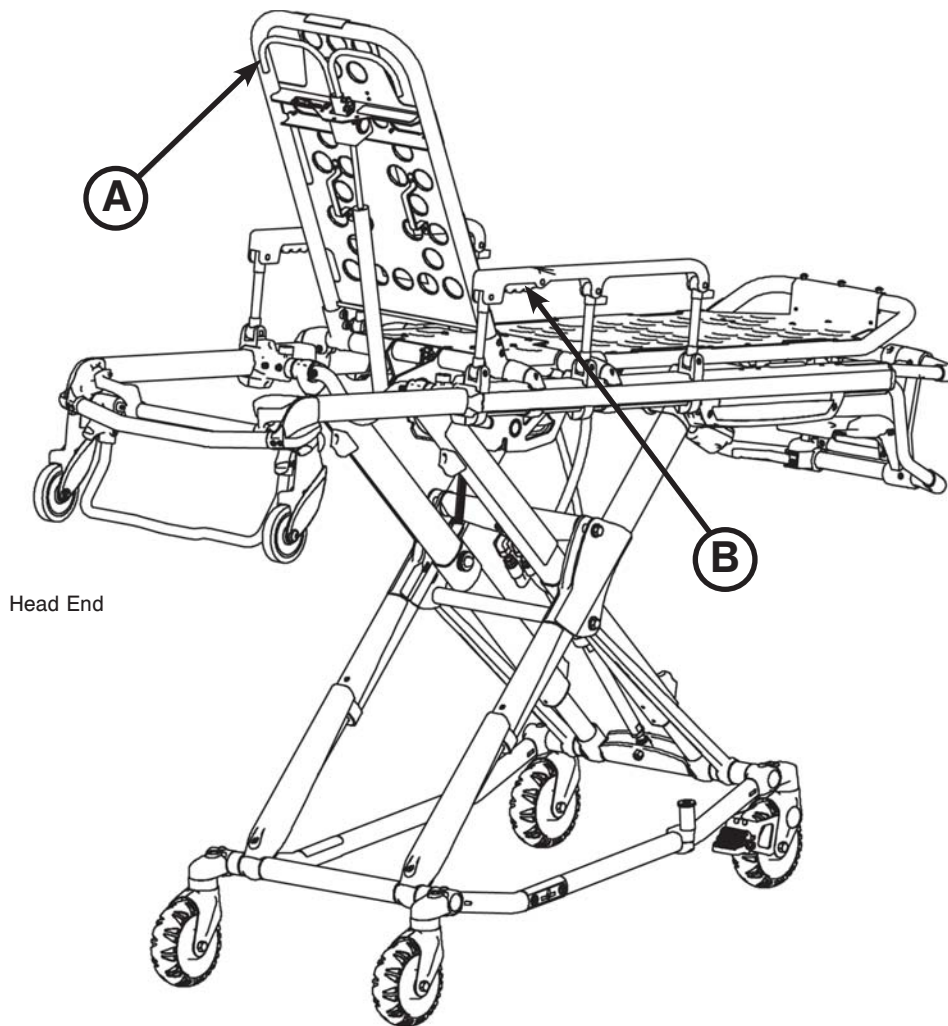

Figure 42: Backrest Elevated and Siderails Raised
To raise the siderails, as shown in Figure 42, lift up on the siderail until the latch clicks and the siderail locks into place. When a patient is on the cot, always keep the siderails in the raised position unless the patient is being transferred.
To raise the backrest, as shown in Figure 42, squeeze handle (A) for pneumatic assist in lifting the backrest to the desired height.